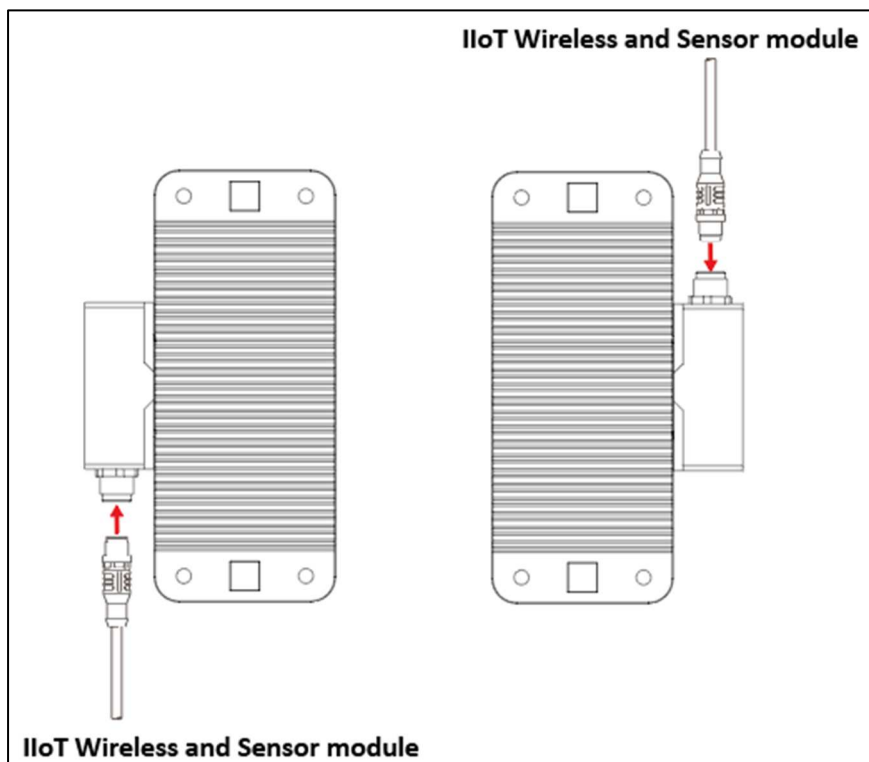

Figure 16.- Correct InduEye® TG Duo orientation between modules
- Orient the InduEye® TG Duo unit to suit wireless module position (Figure 16).